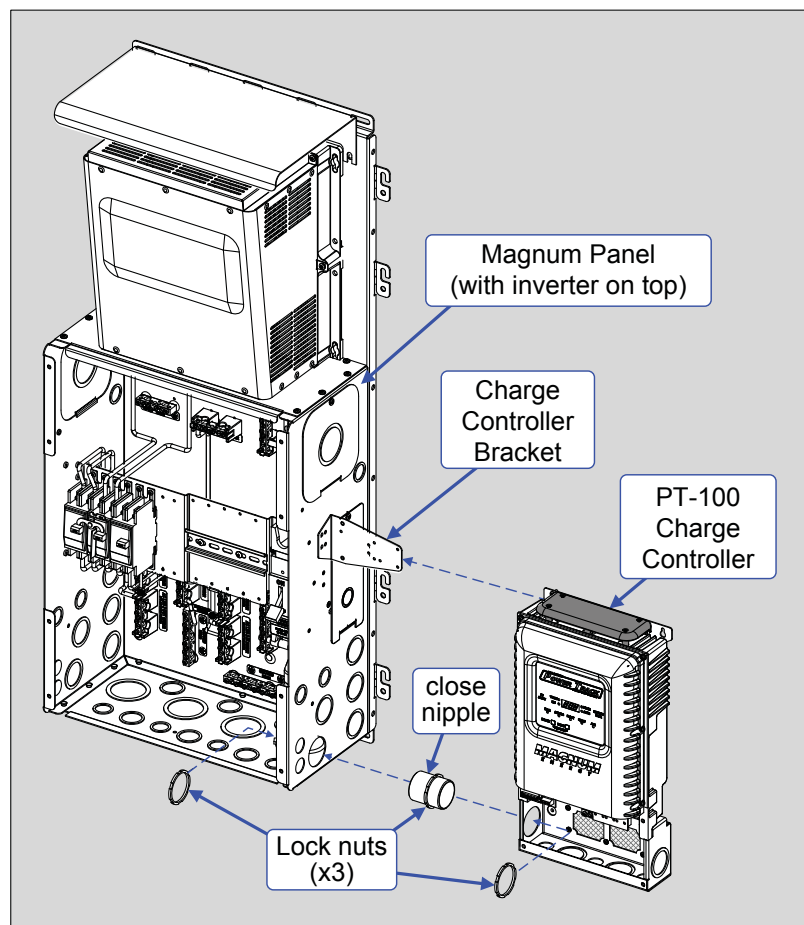
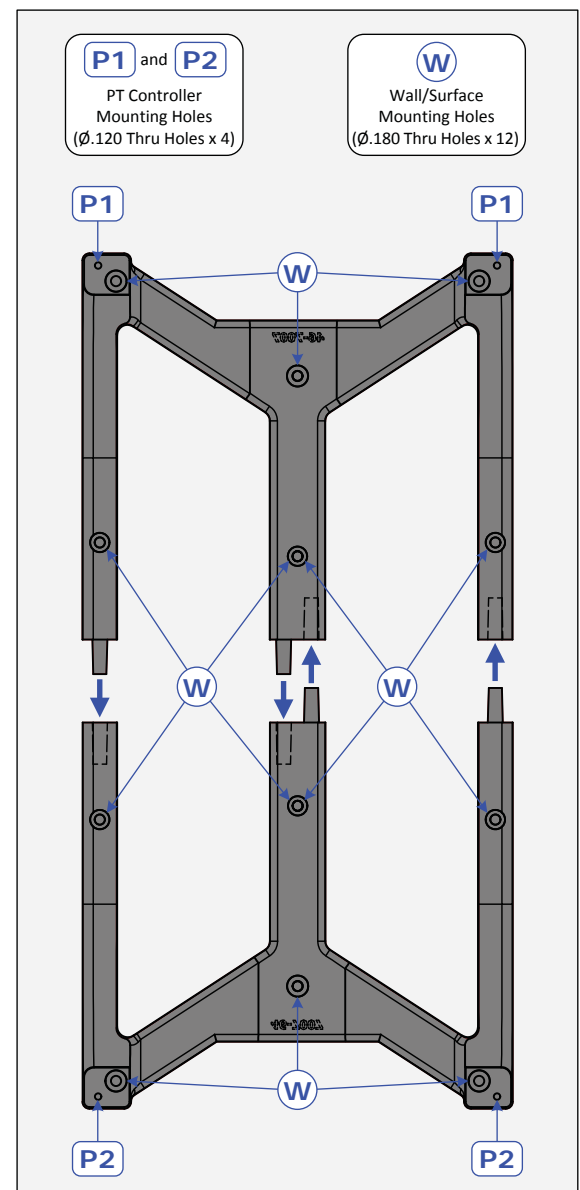
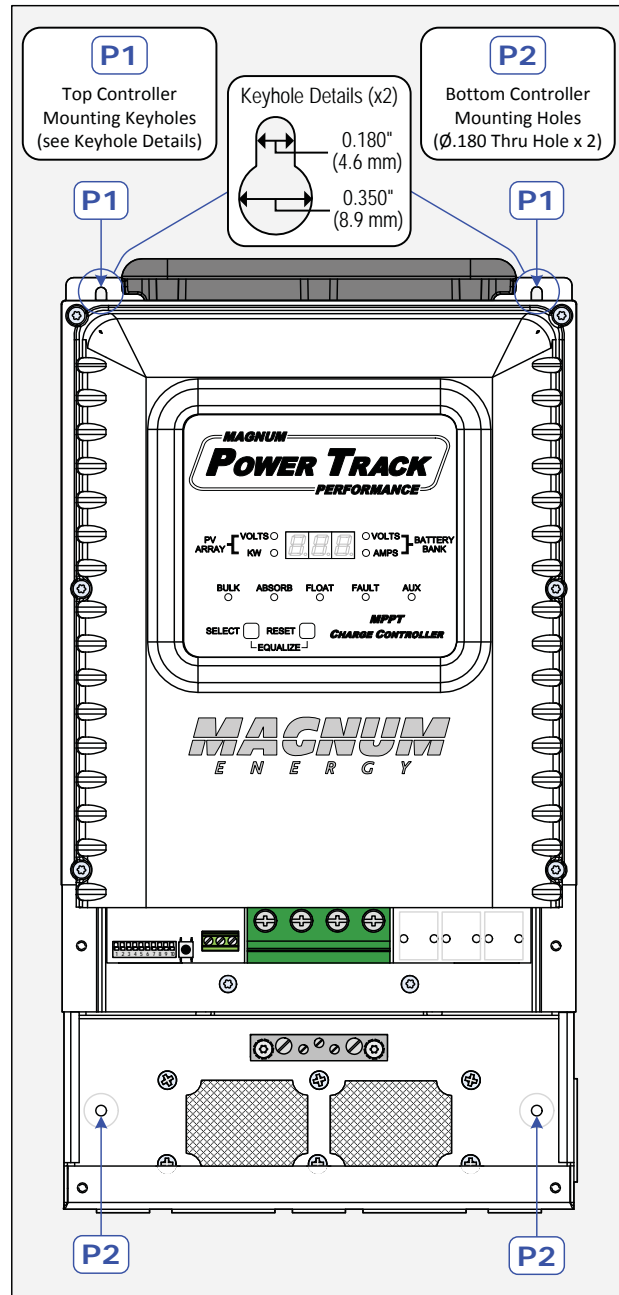

Figure 2-8, Mounting the PT-100 Controller on a Magnum Panel
Figure 2-10, Mounting Bracket Thru-hole Callouts
Figure 2-11, PT Controller Mounting Holes
The charge controller should not be installed in an area that allows dust, debris, insects or rodents to enter or block the controller's ventilation openings, or in an area without sufficient air flow around the PT's enclosure. There must be free air movement through the controller and over the controller's rear heatsink fins. This is done by mounting on the side of a Magnum Panel (see Figure 2-8 or by using the supplied wall-mounting bracket to mount against a wall (see Figure 2-10).
Two mounting methods are available for the PT-100. The first method allows the controller to be mounted next to a Magnum Panel (i.e., MP or MMP), aligning the conduit openings (see Figure 2-8). The second mounting method uses two brackets on the top and bottom of the controller for mounting directly on a wall, and is normally used in a standalone installation (see Figure 2-10).
1. Use one of the bracket pieces for the bottom half of the bracket and hold it on the mounting surface at the desired height. While using a level to ensure it is horizontally and vertically straight (and the openings in the bracket are faced toward the top), insert two #8 sized screws into any of the wall mounting holes (designated as "W" in Figure 2-10).
2. Now that the bottom bracket is mounted, use the other bracket piece as the top half and insert it into the openings of the bottom bracket. While holding the top bracket in place, insert two #8 sized screws into any of the designated "W" wall mounting holes (see Figure 2-10).
Once the wall-mounting bracket is securely fastened to the vertical surface, you can now attach the PT charge controller. Refer to Figures 2-11 and 2-12.
1. Using two of the #8 Phillips head screws provided, insert the screws into the top two mounting holes of the wall-mounting bracket (designated as "P1" in Figure 2-10). Tighten these screws until there is a ¼" (6.4 mm) gap between the bracket's mounting hole surface and the screw head.
2. Hang the PT controller onto the wall-mounting bracket by placing the two keyhole openings of the PT controller (designated as "P1" in Figure 2-11) onto the two #8 screws—ensuring the controller is securely held in place before releasing.
3. Align the two mounting holes in the bottom of the PT controller (designated as "P2" in Figure 2-11) over the two bottom mounting holes on the bracket (designated as "P2" in Figure 2-10).